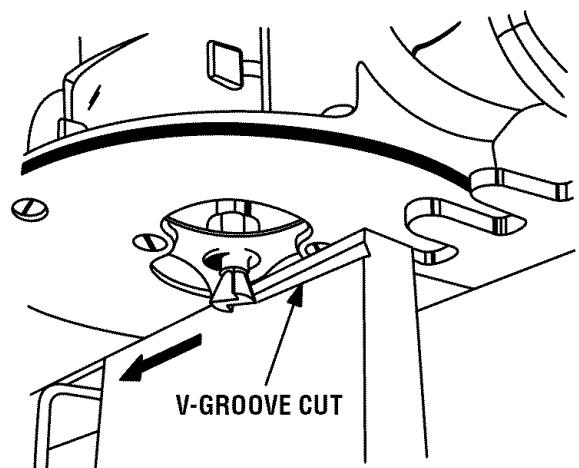

Fig. 15
- Place the router so that the subbase is resting flat on the dovetail template. Make sure the cutter is not making contact with the edge of board (A), then turn your router on and let the motor build to its full speed.
- Make a straight cut from **RIGHT TO LEFT** across board (A). See Figure 15. This shallow V-groove cut is made to prevent chipping of the wood when the router is moved in and out of the fingers of your dovetail template.